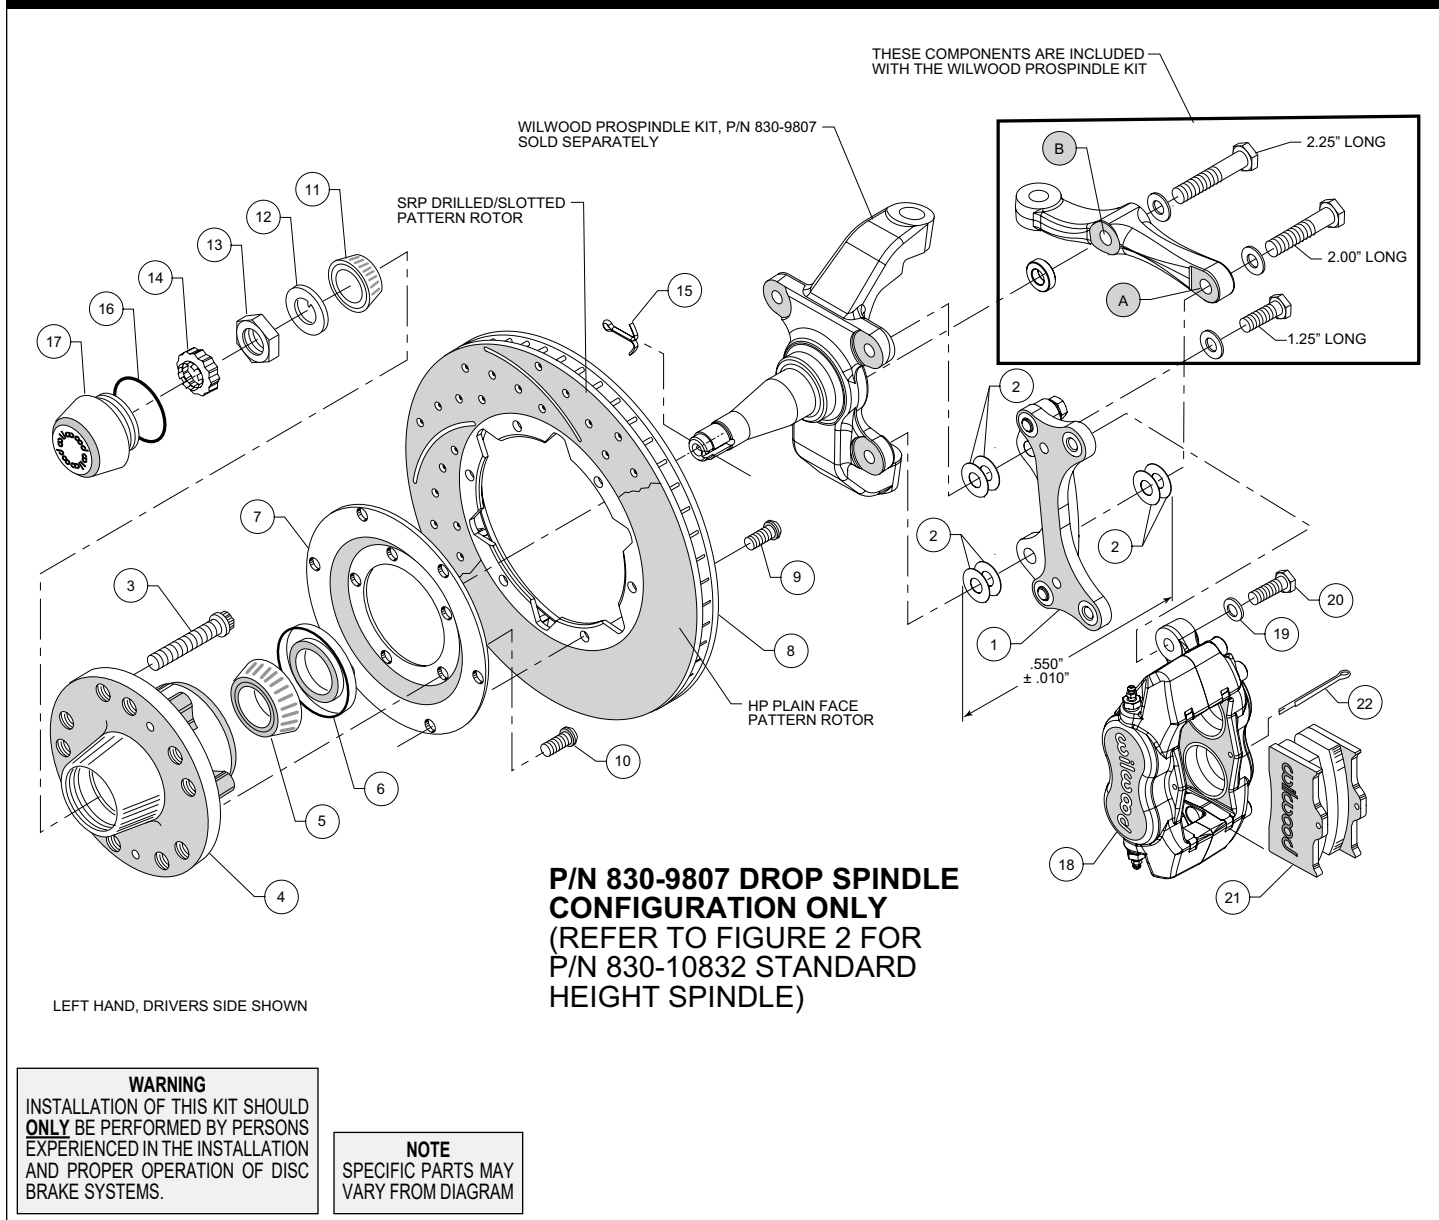
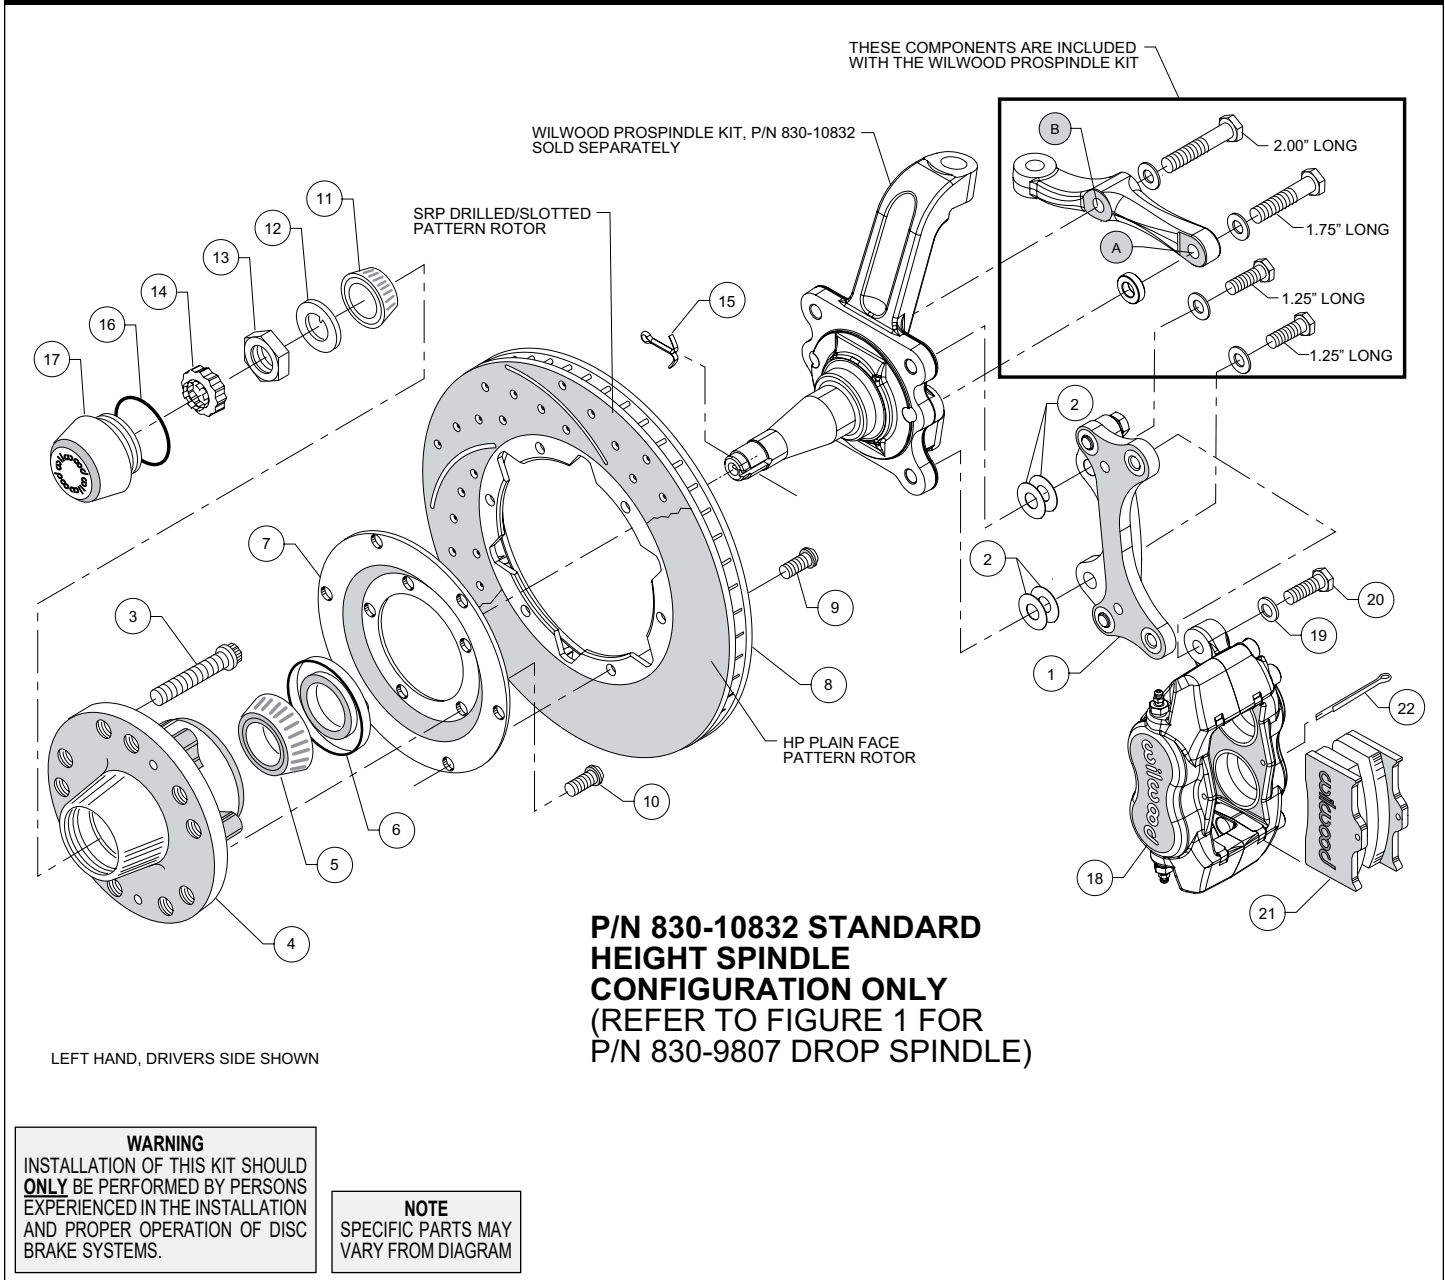

Figure 1. Installation Configuration For Drop Spindle, P/N 830-9807
Figure 2. Installation Configuration For Standard Height Spindle, P/N 830-10832
**NOTE:** Numbers in parenthesis refer to the parts list and Figures 1 and 2 on the preceding pages.
**NOTE:** Each Wilwood ProSpindle kit includes bolts, washers, and a spacer to mount the steering arm and caliper bracket. The various bolts are identified by length in the following instructions and in Figures 1 and 2.
**For 2" Drop ProSpindle (P/N 830-9807):** The caliper bracket assembly (1) should initially be installed with clean, dry threads on the mounting bolts.
- Orient the bracket as shown in Figure 1 and Photo 1. Install at top spindle hole using 1.25" long bolt and .06" thick washer (from ProSpindle kit), and two .016" thick shims (2) between the bracket and spindle, Figure 1.
- Orient the steering arm, and identify the hole marked 'A', as shown in Figure 1. Install at bottom spindle hole using 2.00" long bolt, .06" thick washer (from ProSpindle kit), two .016" thick shims (2) between the steering arm and the bracket, and another two more .016" thick shims (2) between the bracket and spindle, Figure 1. The bracket is located between the steering arm and spindle. **NOTE:** The bracket and shim washers must add up to a total thickness of .550" ± .010", Figure 1.
- Finish attaching the steering arm through the hole marked 'B', as shown in Figure 1. Install using 2.25" long bolt, .06" thick washer, and .25" thick spacer (all from ProSpindle kit), Figure 1.
**For Standard Height ProSpindle (P/N 830-10832):** The caliper bracket assembly (1) should initially be installed with clean, dry threads on the mounting bolts.
- Orient the bracket as shown in Figure 2 and Photo 2. Install using 1.25" long bolts and .06" thick washers (from ProSpindle kit), and two .016" thick shims (2) on each bolt between the bracket and spindle, Figure 2. Temporarily tighten mounting bolts. **NOTE:** *The bracket must fit squarely against the mounting points on the spindle.* Inspect for interference from casting irregularities, machining ridges, burrs, etc. Later, after the caliper alignment has been checked, the mount bolts will be secured using red *Loctite*® 271.
- Orient the steering arm, and identify the hole marked 'A', as shown in Figure 2. Install using 1.75" long bolt, .06" thick washer, and .30" thick spacer (all from ProSpindle kit), Figure 2.
- Finish attaching the steering arm through the hole marked 'B', as shown in Figure 2. Install using 2.00" long bolt and .06" thick washer (from ProSpindle kit), Figure 2.
- Install wheel studs (3) into the hub (4), Photo 3. Torque to 77 ft-lb. **NOTE:** *There are two lug patterns of five holes each in the hub (5 x 4.50 and 5 x 4.75).* Make sure of the correct hole pattern for the wheel application before installing the studs into the hub.
- Pack the large inner bearing cone (5) with high temperature disc brake bearing grease (available from your local auto parts store) and install into the backside of the hub (4), Photo 4.
- Install the grease seal (6) by pressing into the backside of the hub (4), flush with the end of the hub, Photo 4.
- Orient the rotor (8) and the rotor adapter (7) as shown in Figure 1 or 2 and Photo 5. Attach the rotor to the adapter using bolts (9). Using an alternating sequence, apply red *Loctite*® 271 to the threads, and torque to 25 ft-lb.
- Mount the adapter/rotor assembly (7 and 8) to the hub (4) using bolts (10), as shown in Figure 1 or 2 and Photo 6. Using an alternating sequence, apply red *Loctite*® 271 to the threads, and torque to 45 ft-lb.
- Pack the small outer bearing cone (11) with high temperature disc brake bearing grease and install into front of hub (4). Slide the hub assembly onto the spindle. Secure using spindle washer (12) and spindle nut (13), Photo 7. Bearing adjustment: Tighten the nut while turning the hub. When there is a slight bind on the bearings, they are seated correctly. Back the nut off about 1/6 to 1/4 of a turn, or sufficiently to allow .001" to .007" end play. **WARNING:** *Failure to back off adjusting nut could cause bearing to run hot*
•**NOTE:** Please reference the caution statement at the beginning of the assembly instructions. Mount the caliper (18) onto the caliper mounting bracket (1) using bolts (20) and washers (19), as shown in Figure 1 or 2. Temporarily tighten the mounting bolts and view the rotor (8) through the top opening of the caliper. The rotor should be centered in the caliper, Photo 9. If not, proceed as follows: